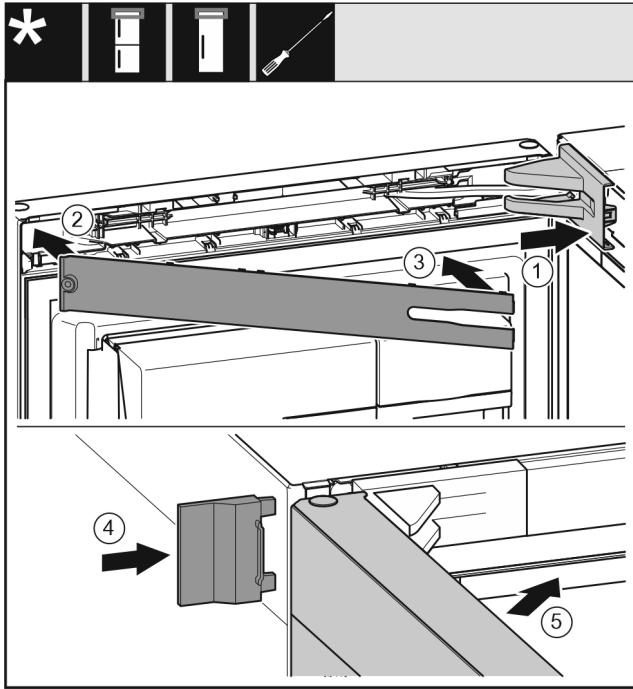

Fig. 39
- ▶ Put the swap bearing block cover Fig. 39 (1) on and engage, push apart carefully if required.
- ▶ Fit the trim Fig. 39 (2).
- ▶ Swivel in the cover Fig. 39 (3) and engage.
- ▶ Push the outer cover Fig. 39 (4) on.
- ▶ Close the upper door Fig. 39 (5).